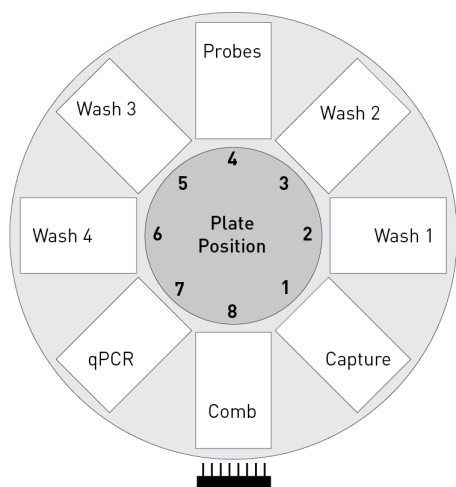

Figure 2 Plate positions in the MagMAX™ Express-96 turntable
2. Press **START** to initiate plate loading. Follow the prompts on the display screen to load each plate onto the MagMAX™ Express-96 turntable, starting with “Comb” (see Figure 2). Slide each plate into the plate hold-down (if present).